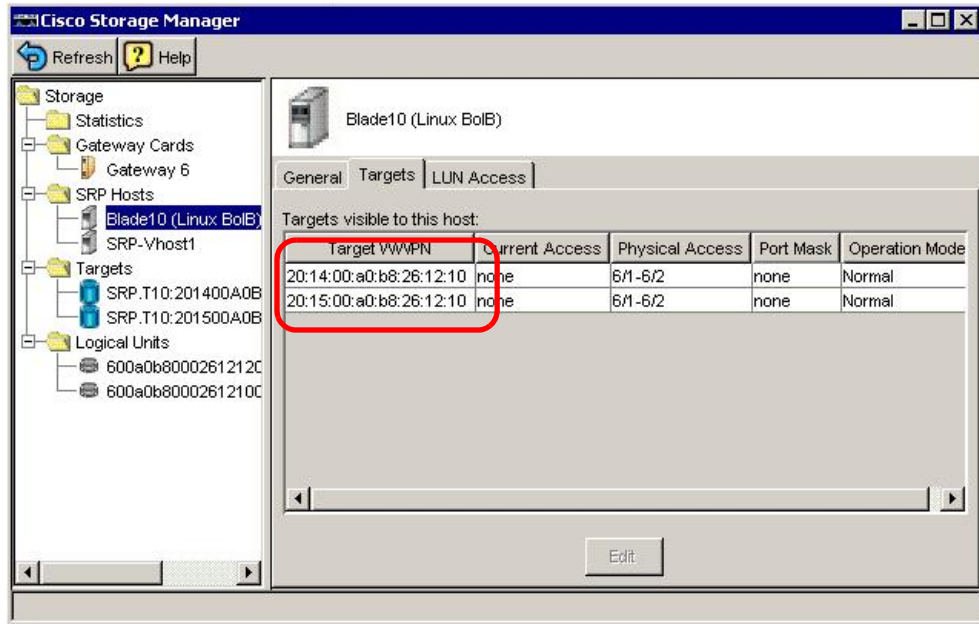

Figure 6-14 SRP Host: List target devices accessible
1. Select the SRP initiator listed in the SRP Hosts folder, then go to the Targets tab (Figure 6-14 on page 107).